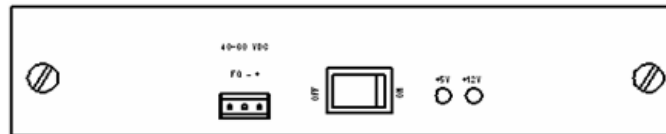

Figure 11 Panel of rack/DC DC redundant power supply
- The panel of RACK/DC DC redundant power supply is shown in figure 11.